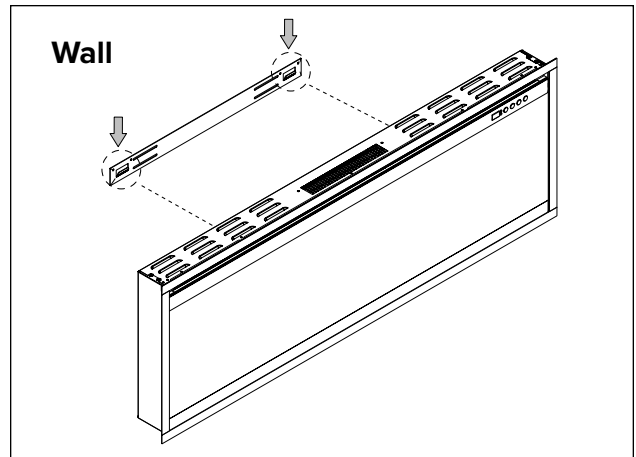

Fig. 4
6. With the wall-mounting bracket installed, have two people lift the appliance up and insert the hooks on the bracket into the slots on the back of the appliance (**Fig. 4**).